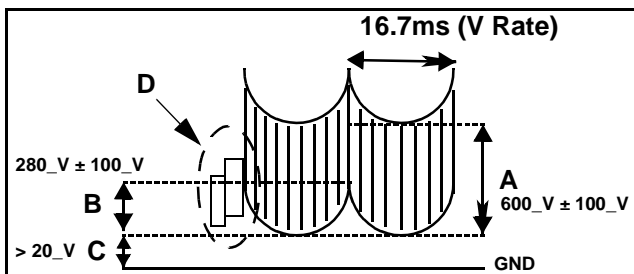

Figure 22. D. Focus Adjustment Waveform
6. Confirm that the waveform shown in D appears (See Figure 22)